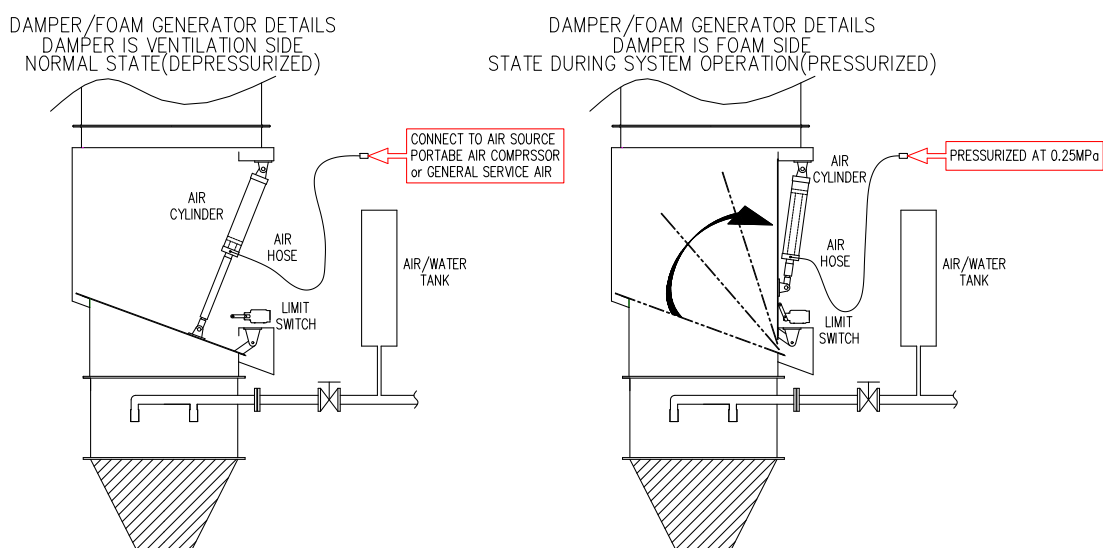

Fig. 1
- B) Detach the air hose from the air/water tank and connect it to an air supply source as shown in Fig.1.